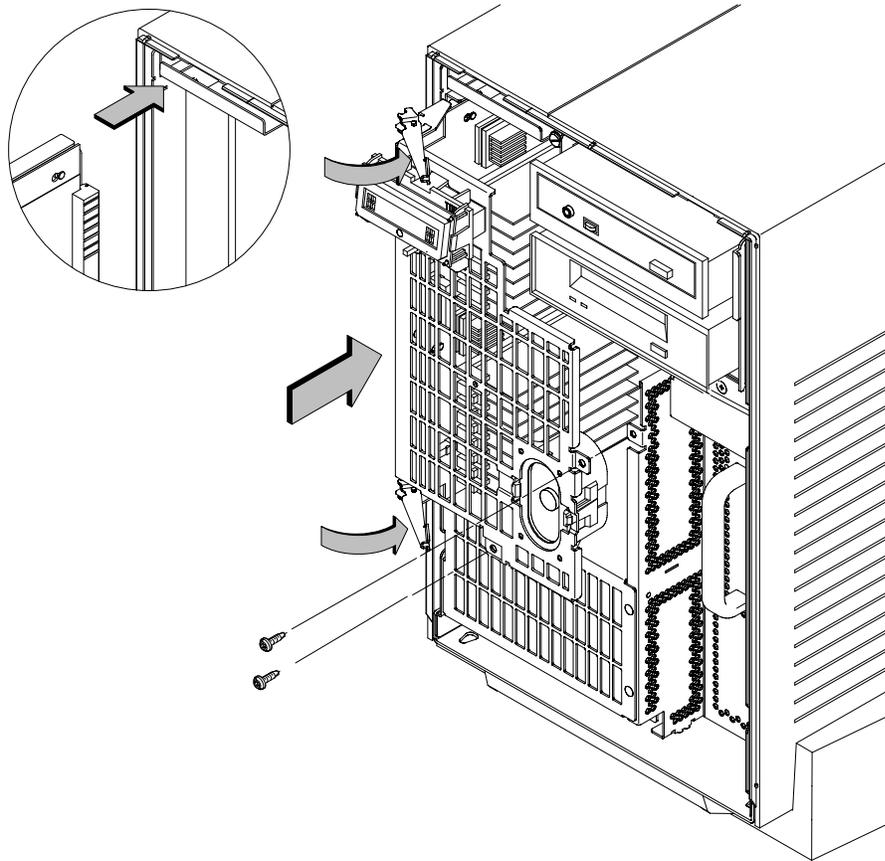

Figure A-24. Replacing the CPU Assembly
13. To replace the CPU Assembly in the system unit, first align the top of the CPU Assembly with the guide on the system unit. Refer to Figure A-24 and to the label on the back of the assembly. Be sure to support the CPU Assembly properly while replacing it.
Next, align the bottom of the CPU Assembly with the guide on the system unit. With the ejector latches in the open position, slide the CPU Assembly into the system unit as far as it will go. See Figure A-24.